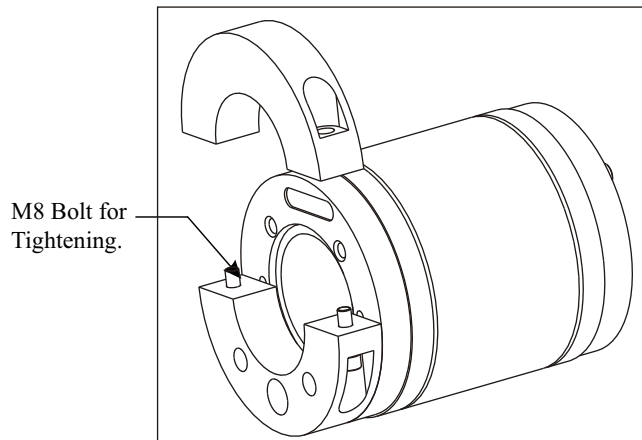

Figure 2: Air Chuck C-Clamp for Tightening it on to A Shaft. (For disassembly, just loosen the bolts, provide only 1-2 mm clearance.)
3. For using Air Chuck, slide the chucks on a shaft for which they are ordered. (Make sure to order Bore of the chucks to the size you require.) If you are mounting the chucks on to an Air Shaft, release the air of Air Shaft and slide it onto the shaft. Then tighten up the side clamp bolts (Shown in Figure 2). For easy sliding, we provide 0.1 mm to 0.2 mm clearance above the shaft size you indicated.